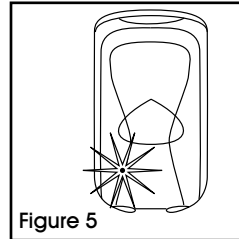

Figure 5
5. Close dispenser cover. Status light will blink green after closing, indicating that batteries are correctly installed and dispenser is ready to accept refills. (See Figure 5)